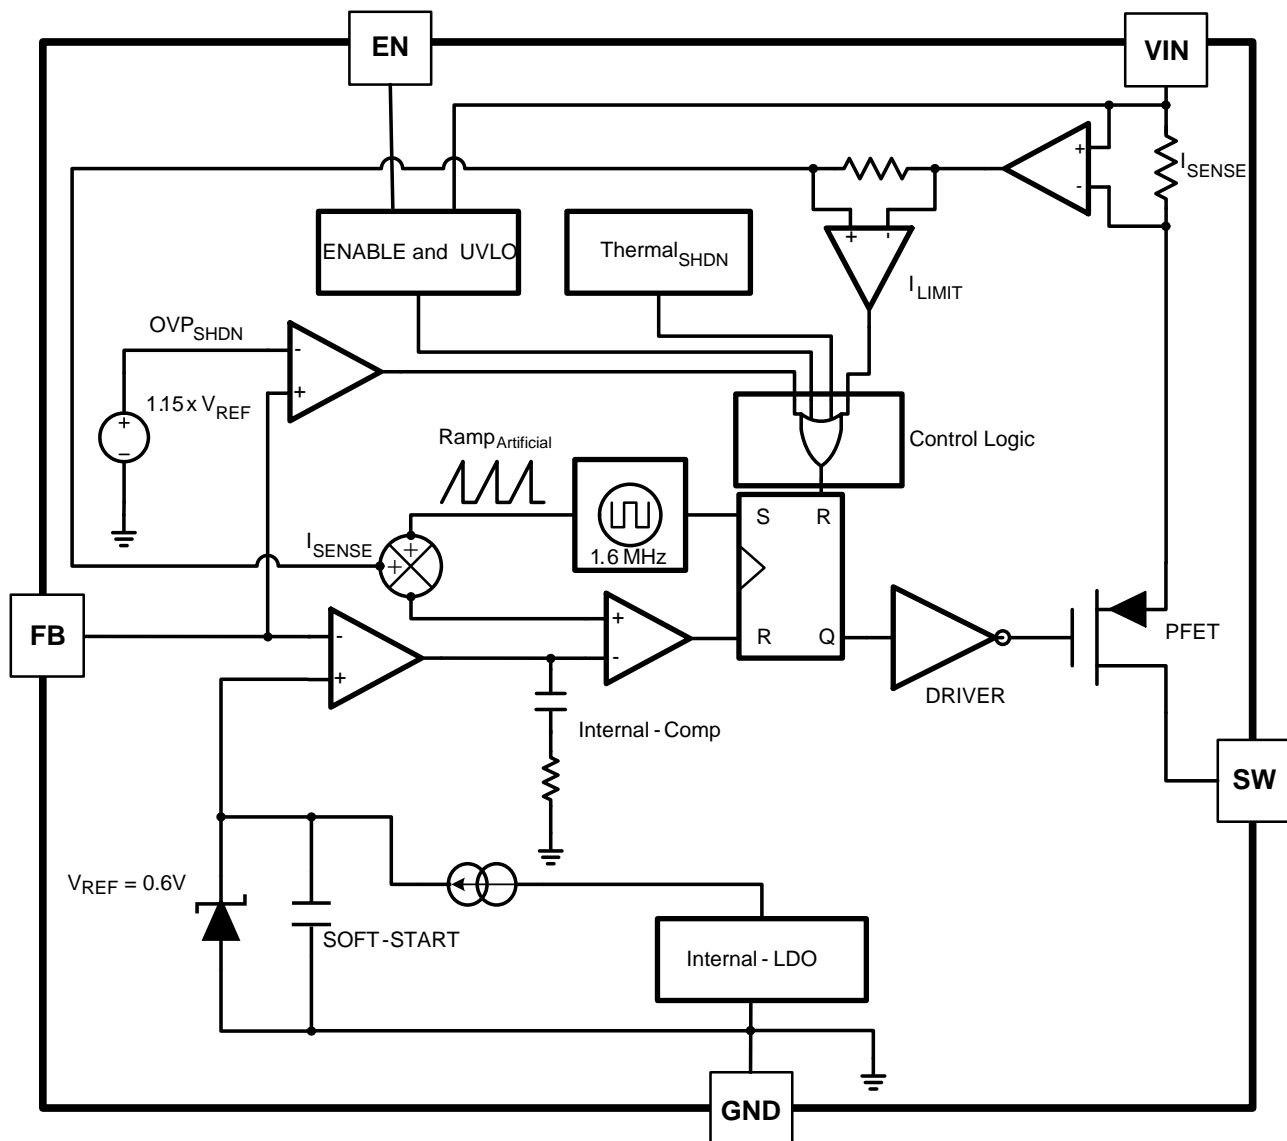
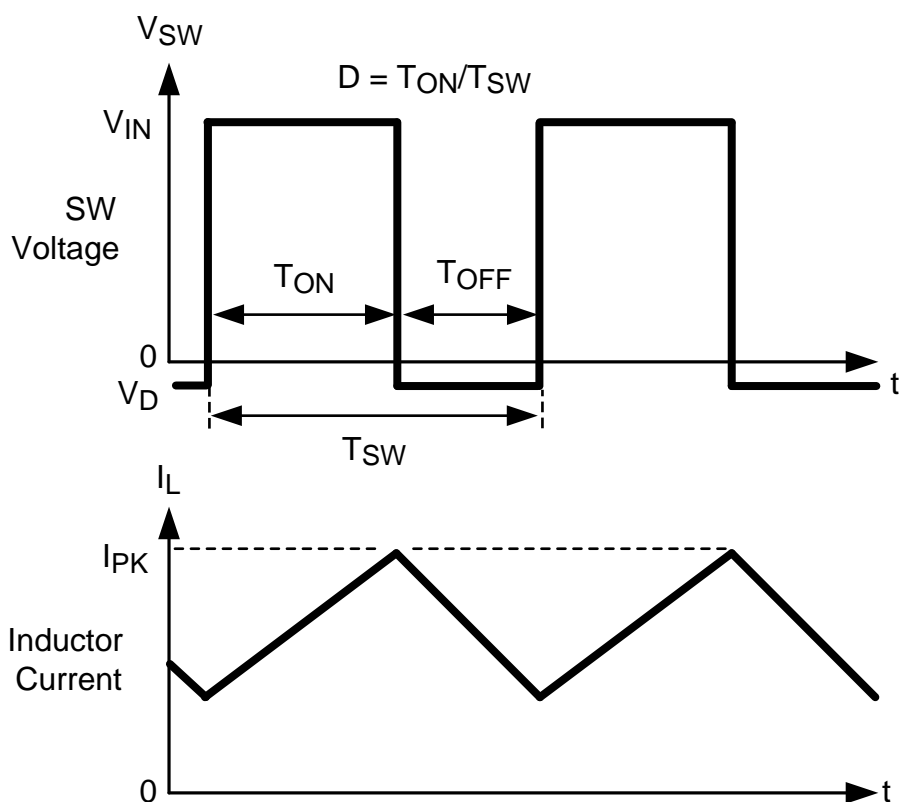

Figure 20.
Figure 21. Typical Waveforms
The following operating description of the LMR10520 will refer to the SIMPLIFIED BLOCK DIAGRAM (Figure 20) and to the waveforms in Figure 21. The LMR10520 supplies a regulated output voltage by switching the internal PMOS control switch at constant frequency and variable duty cycle. A switching cycle begins at the falling edge of the reset pulse generated by the internal oscillator. When this pulse goes low, the output control logic turns on the internal PMOS control switch. During this on-time, the SW pin voltage (V_{SW}) swings up to approximately V_{IN} , and the inductor current (I_L) increases with a linear slope. I_L is measured by the current sense amplifier, which generates an output proportional to the switch current. The sense signal is summed with the regulator's corrective ramp and compared to the error amplifier's output, which is proportional to the difference between the feedback voltage and V_{REF} . When the PWM comparator output goes high, the output switch turns off until the next switching cycle begins. During the switch off-time, inductor current discharges through the Schottky catch diode, which forces the SW pin to swing below ground by the forward voltage (V_D) of the Schottky catch diode. The regulator loop adjusts the duty cycle (D) to maintain a constant output voltage.